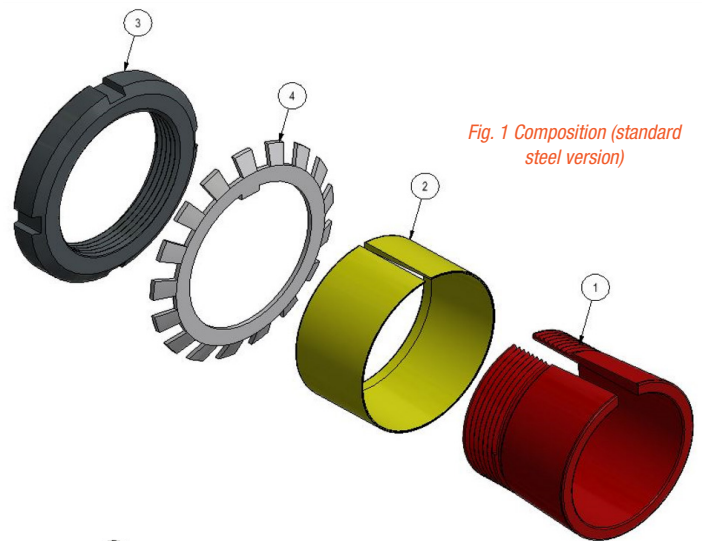

Fig. 1 Composition (standard steel version)
**Locking Assemblies MAV 3505 and MAV 3705 are supplied ready for installation and are composed of (fig. 1 and 2):**